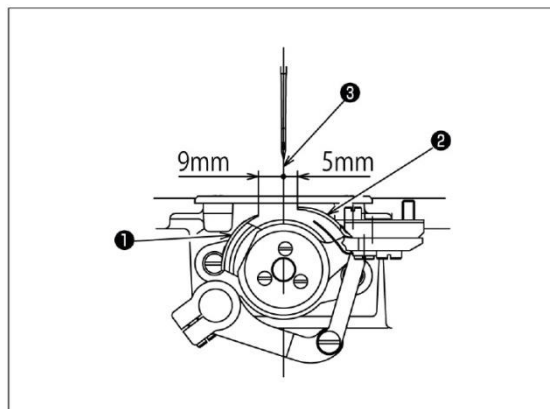

Fig.27
The standard positioning of the thread trimmer (left) (1) and counter knife (1) is as illustrated in the figure 27. The thread trimmer (left) (1) should be 9mm and the counter knife (2) should be 5mm away from the center of the needle (3).